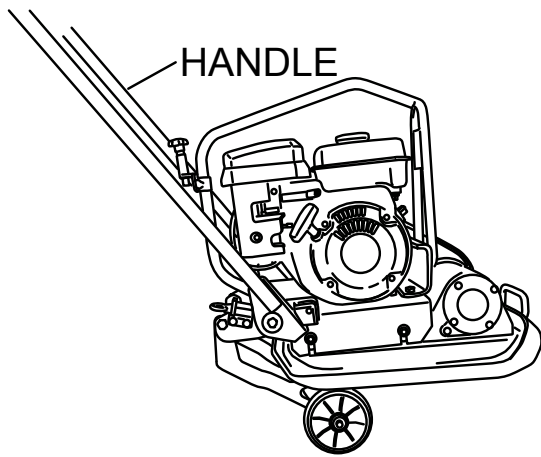

Figure 11. Transporting The Compactor
6. Pull back handle to the normal position (Figure 11). Compactor is now ready for transport.